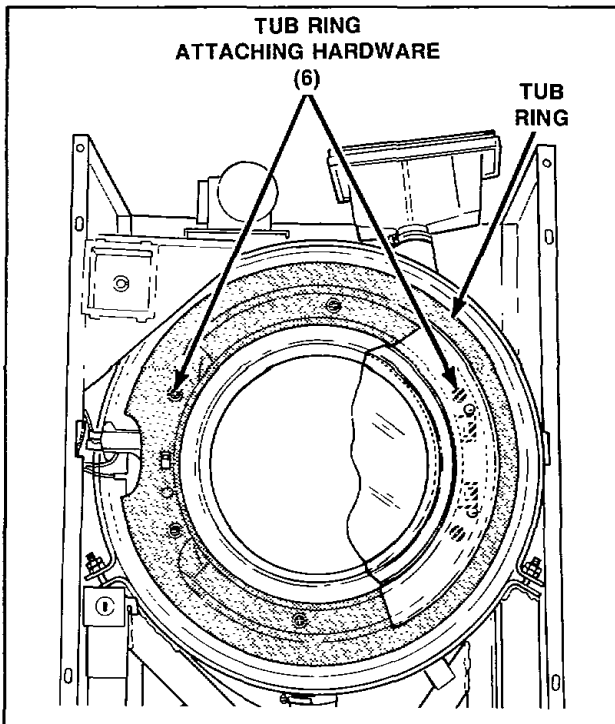

Figure 9
- l. Remove six screws and cupped washers holding tub ring to front of the outer tub, *Figure 9*. Swing tub ring away from front of